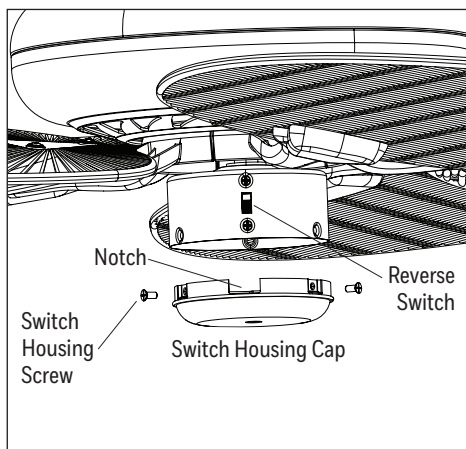

Figure 6.1
1. Remove the three switch housing screws from the top edge of the light kit. Then, attach the switch housing cap to the switch housing using the switch housing screws (Figure 6.1). **Note:** Align the notch in the switch housing cap with the reverse switch.